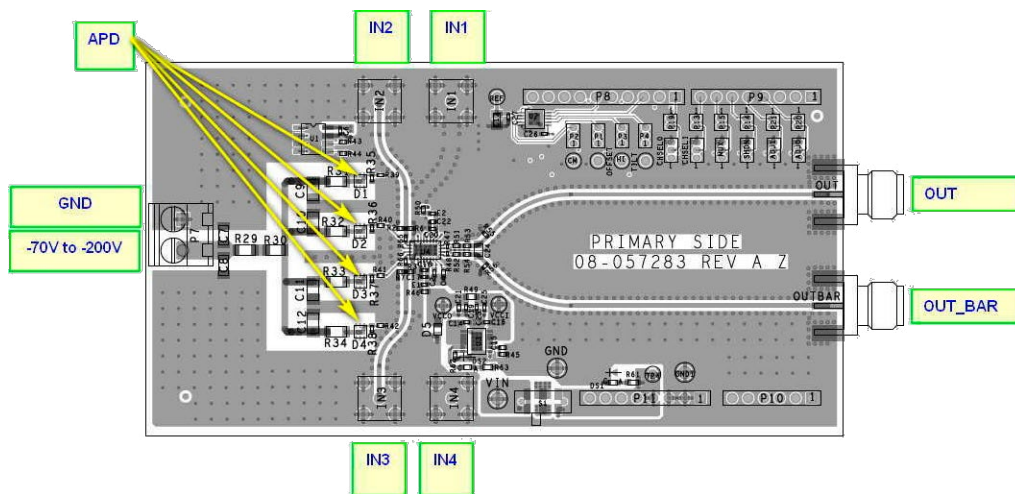
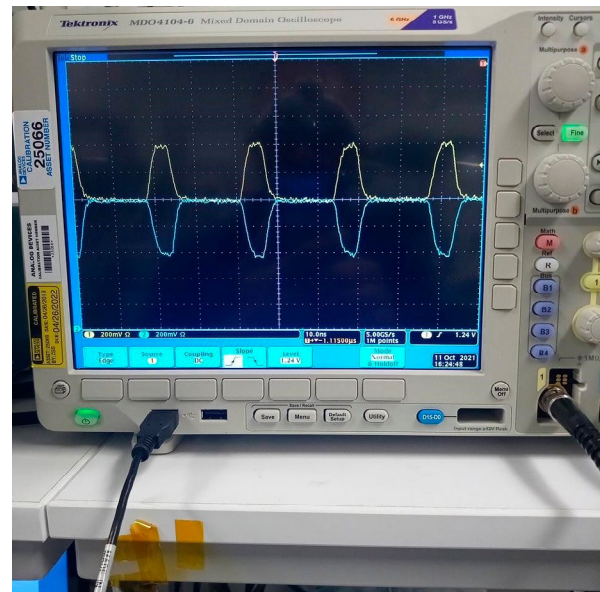

Figure 1. Connection Diagram (IN1 to IN4 Optional for Electrical Testing Only)
Figure 9. OUT and OUTBAR Typical Waveforms
10. Using an external 400nm to 1100nm wavelength pulsed laser, similar to the one identified in the Equipment List as the ST micro light source, illuminate the APDs, which are identified in Figure 1. With the default board setting which selects IN1 or Ch1 (CHSELO = CHSEL1 = 0), position the laser to illuminate the Ch1 APD (D1).
7. Apply a 400nm to 1100nm wavelength pulsed laser, similar to the one identified in the Equipment List as the ST micro light source, to the APDs, which are identified in Figure 1. With a 5ns duration laser pulse width from this light source, the Figure 9 typical scope waveforms can be expected at OUT and OUTBAR SMAs (Ch1: OUT, Ch2: OUTBAR):